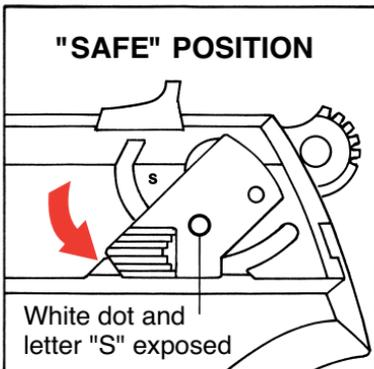

FIGURE 1
The pistol can and should be loaded and unloaded with the safety engaged in its “safe” position (lever fully down, white dot and the letter “S” exposed). **The safety should be in its “safe” position at all times except when the user is deliberately positioned to fire at a selected target.** See Figures 1 and 2, below, which illustrate the two positions of the safety.
2. **Move either the right- or left-hand safety lever fully downward to its “safe” position so that the letter “S” and the white dot are fully exposed.** (See Figures 1 and 2 on page 12).
4. For the 9mm P95 pistols, place ten (10) or fewer 9mm x 19 Parabellum cartridges into the magazine from the top.
The trigger is inoperable when the safety is fully engaged in its “safe” position (lever fully down, white dot and letter “S” exposed; see Figure 1 on page 12).
7. If the pistol is not to be fired immediately, the safety should remain in its “safe” position (see Figure 1, p. 12).
1. The muzzle of the pistol must be pointing in a safe direction at all times, and fingers should be outside of the trigger guard. Put the safety in its “safe” position (see Figure 1 on page 12) by rotating the safety fully downward until the letter “S” is fully exposed and the white dot shows. The safety can be engaged whether the pistol is cocked or not.